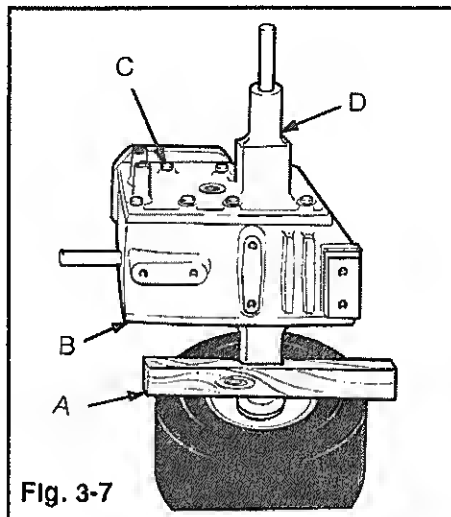

Fig. 3-7
4. The 56T bevel gear Figure 3-7 can be removed from the shaft if replacement is necessary. A woodruff key is used to prevent the bevel gear from turning on the pinion shaft.